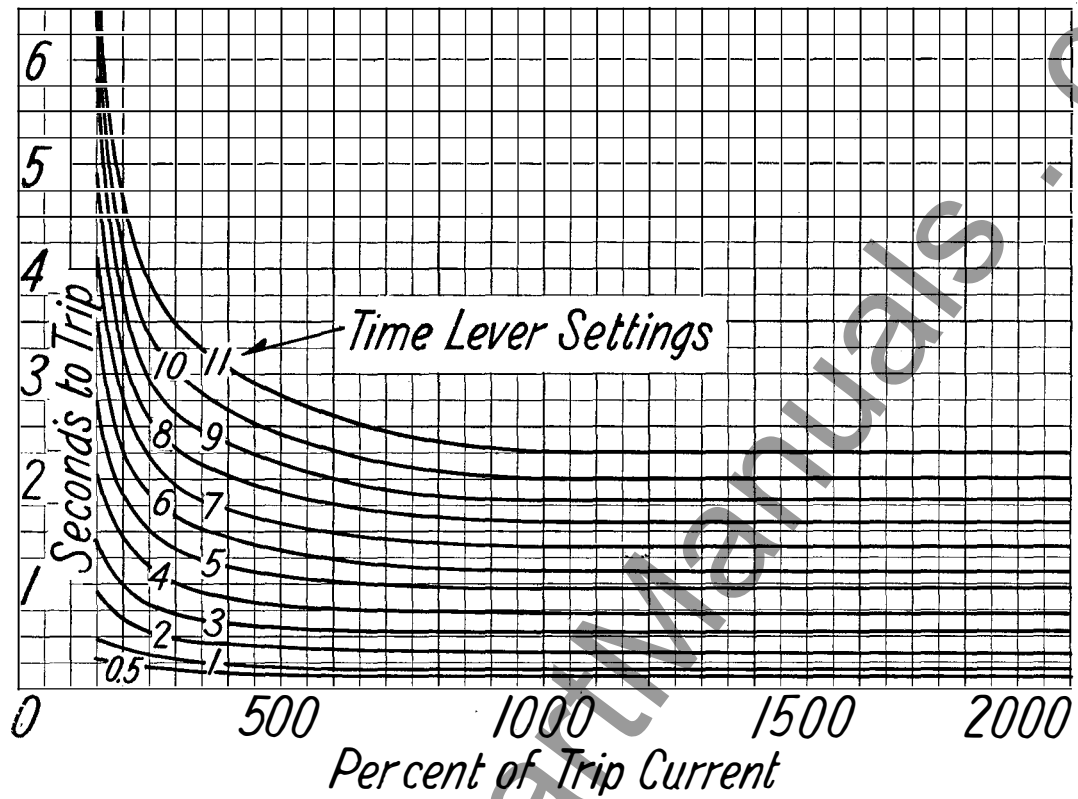

FIG. 7—TYPICAL DEFINITE TIME CURVES OF THE TYPES CO AND COA STANDARD ENERGY RELAYS
The characteristic curves of the four different type CO relays is shown in Figures 7 to 11. The standard-energy definite-time relay is made in either of the following current ranges.
*Curves Figs. 7 to 11 inclusive show the timing in greater detail than possible on the name plate. The Calibration is intended to be on the basis of the cool or normal operating condition inasmuch as overloads can only be of short duration. Any testing at currents in excess of coil ratings requires special equipment and great care as overheating of the coils changes the calibration.